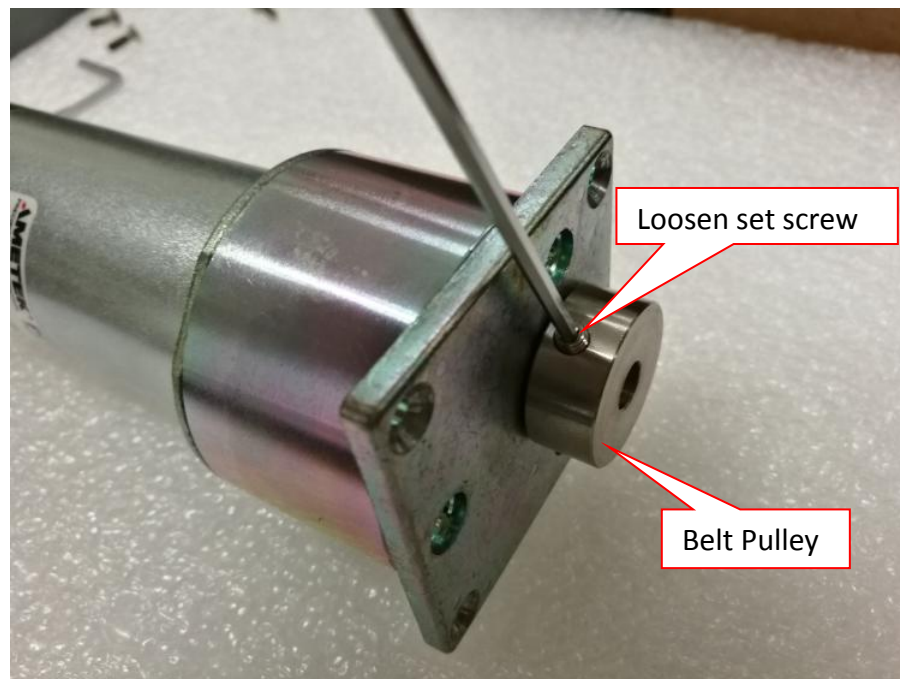

Figure 6 Belt Pulley Removal
8. Loosen Set Screw and gently remove Belt Pulley as shown in Figure 6.